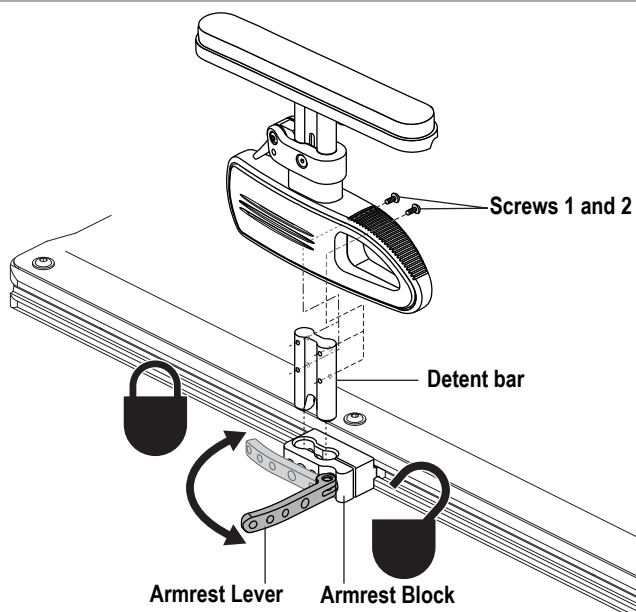

Figure 14. Pediatric Single Post Quick Height Adjustment Drop-in Adjustment
1. Remove screws 1 and 2 from the detent bar. **See figure 14.**